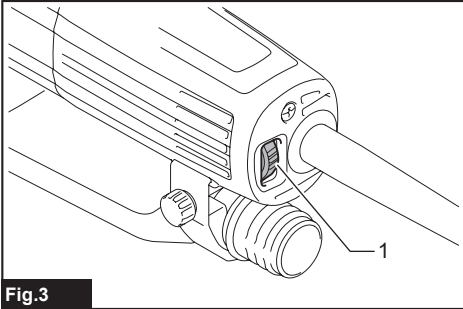

Fig.3
► Fig.3: 1. Speed adjusting dial